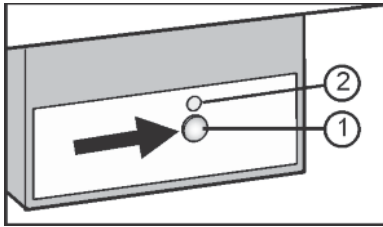

Fig. 6
- ▶ Press On/Off button Fig. 6 (1) so that the LED Fig. 6 (2) lights up.